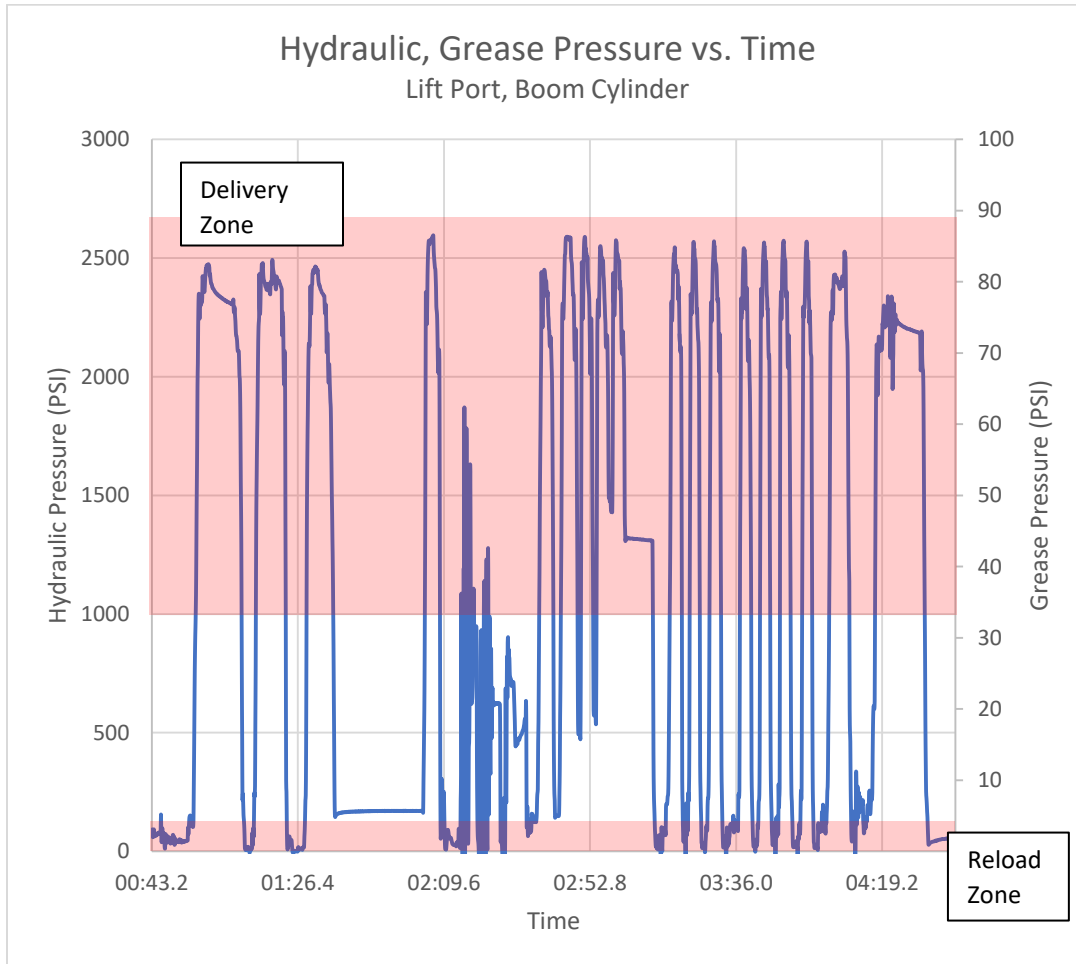

Figure 5 Example Machine Pressure Trace
Figure 5 shows a typical pressure trace from the lift cylinder of a backhoe. The delivery pressure zone and pump reload pressure zone are shown. This example shows a delivery pressure that is above the minimum operating pressure recommendation and below the maximum operating pressure, which is a pressure range that is well suited for the pump operation.
5. Note the examples of the lift side of the cylinder shown below in **Figure 19**: Although the lifting side is typically opposite the rod end of the cylinder, it is the installer's responsibility to ensure that it is. The grease pump hydraulic inlet may be plumbed to the downstroke side of the cylinder as well; however, it is recommended to ensure the pressure profile on the downstroke is known. (See **Figure 5**).